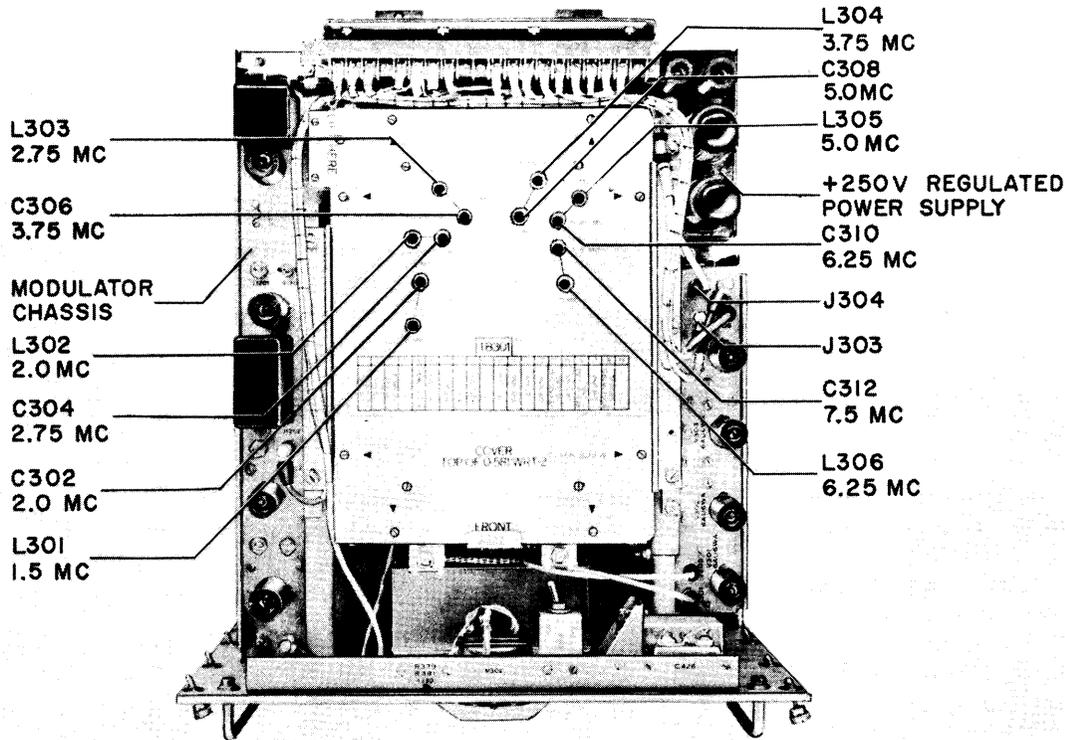

Figure 6-4. Radio Frequency Oscillator O-581/WRT-2 Top View, Electrical Adjustments
d. RADIO FREQUENCY OSCILLATOR O-581/WRT-2.—Radio Frequency Oscillator O-581/WRT-2 requires adjustments in the master oscillator, the frequency multipliers and the modulator chassis. Throughout the following procedures refer to figures 6-4 through 6-7 for location of adjustments.
(1) TEST EQUIPMENT AND SPECIAL TOOLS.—The test equipment required for making the adjustments in Radio Frequency Oscillator O-581/WRT-2 consists of:
(2) CONTROL SETTINGS.—Before proceeding to make the adjustments on the master oscillator the oven heaters should be energized for at least six hours. This is accomplished by placing **EMERGENCY STOP** switch S201 on the front panel of Power Supply PP-2222/WRT and oven heaters switch S304, (located inside the drawer containing Radio Frequency Oscillator O-581/WRT-2 on top of the chassis) in the ON position. Thirty minutes before starting to make the adjustments place **FILAMENT POWER** switch S502 in the ON position and press **PLATE POWER ON** switch S503. Switches S502 and S503 are located on the front panel of Amplifier-Power Supply AM-2122/WRT-2. After these conditions have been satisfied, set the other controls on the front panel of Transmitter Group OA-2175/WRT-2 in the following manner:
(3) MASTER OSCILLATOR.—The required electrical adjustments of the master oscillator consist of making it track with the calibrated tuning dial located on the front panel of Radio Frequency Oscillator O-581/WRT-2. In order to make the master oscillator tracking adjustments refer to figure 6-4 and proceed as follows:
Step 1. Pull out the drawer containing Radio Frequency Oscillator O-581/WRT-2 to its extreme travel limit. Engage the interlock switch. Refer to figure 6-4 and note that all the controls for making the adjustments for frequency bands 1 through 6 are located in the oven and can be reached through the special holes provided on top of the oven.
Step 2. Using band 1 as a starting point, set FREQUENCY (D) control to 2.5 megacycles. Note that this setting is the high-frequency end of band 1. Set TUNING (A) and TUNING (B) controls on Electrical Frequency Control C-2764/WRT-2 to 00.01.
Step 4. Turn the FREQUENCY (D) control to 2.0 megacycles. This setting is the lower frequency range of band 1. Do not change the setting of TUNING (A) and (B) controls on Electrical Frequency Control C-2175/WRT-2.
Step 7. The alignment procedure for the remaining bands is similar to that for band 1. However for each band different capacitors and coils must be adjusted while TUNING (A) and TUNING (B) controls must be set differently for each band. The following table shows the coils and capacitors used for each band and the settings of TUNING (A) and TUNING (B) controls. The location of each capacitor and each coil is shown in figure 6-4.